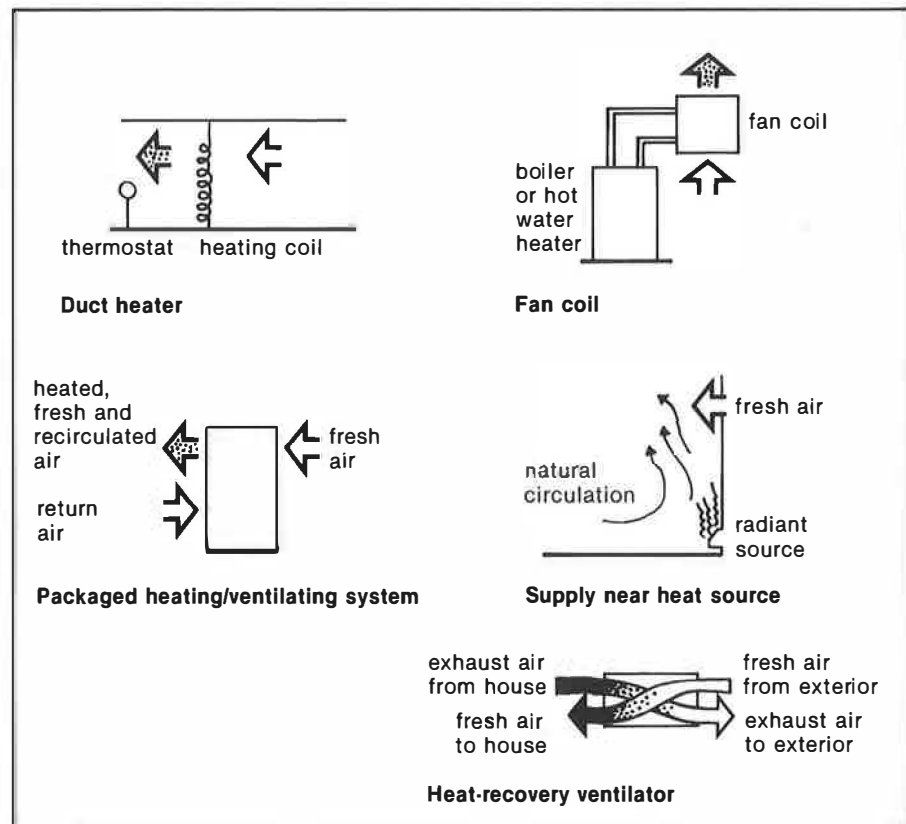

Fig. 24. Methods of preheating fresh air.
- heat recovery ventilator (air-to-air heat exchanger) or heat pump. See fig. 24.